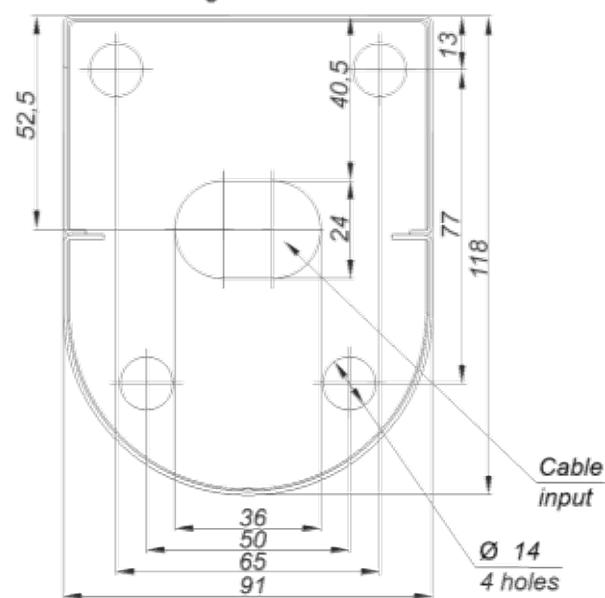

Fig.16 – Gate type turnstile installation marking
4) The turnstile fixation holes to be marked on the area surface according to Fig. 16. The turnstile itself can be used as a template, when installed upright on installation site.
6) When cables to be laid under the floor surface, then a cable duct to be prepared in the floor leading to the turnstile rack cable entry area. The cable entry area layout is shown in Fig.16 diagram.
8) For access to fixing and technological openings of the base and terminal blocks of the XGate- tripod turnstile (Fig. 16) is required: